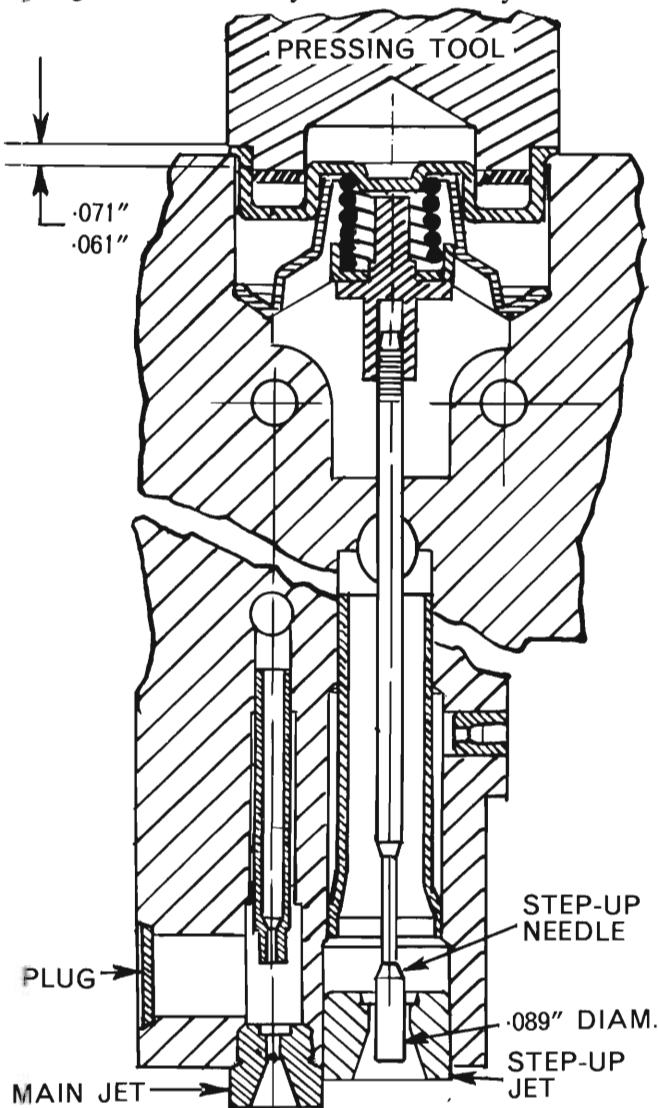

Fig. 3 - Step-up cylinder components
(1) Prise the lock washer from the top cover using a suitable screwdriver. Discard the washer. Refer Fig. 3.
(2) Levering against the body of the carburettor throat at its thick section with a screwdriver, distort the top cover. (Once distorted the cover will become loose and can be lifted out with a pair of round nosed pliers).
(3) Remove the step-up rod, diaphragm and spring and discard only where necessary.
(4) Remove the step-up needle jet by screwing in the extractor tool and withdraw by impacting. Discard the jet.
(5) To re-assemble — place the new step-up needle with diaphragm attached into position.
(6) Place the compression spring and tower in place and press the top cover and lock washer firmly into position, using the special driver Tool E14C30B provided in the carburettor kit (Fig. 3).